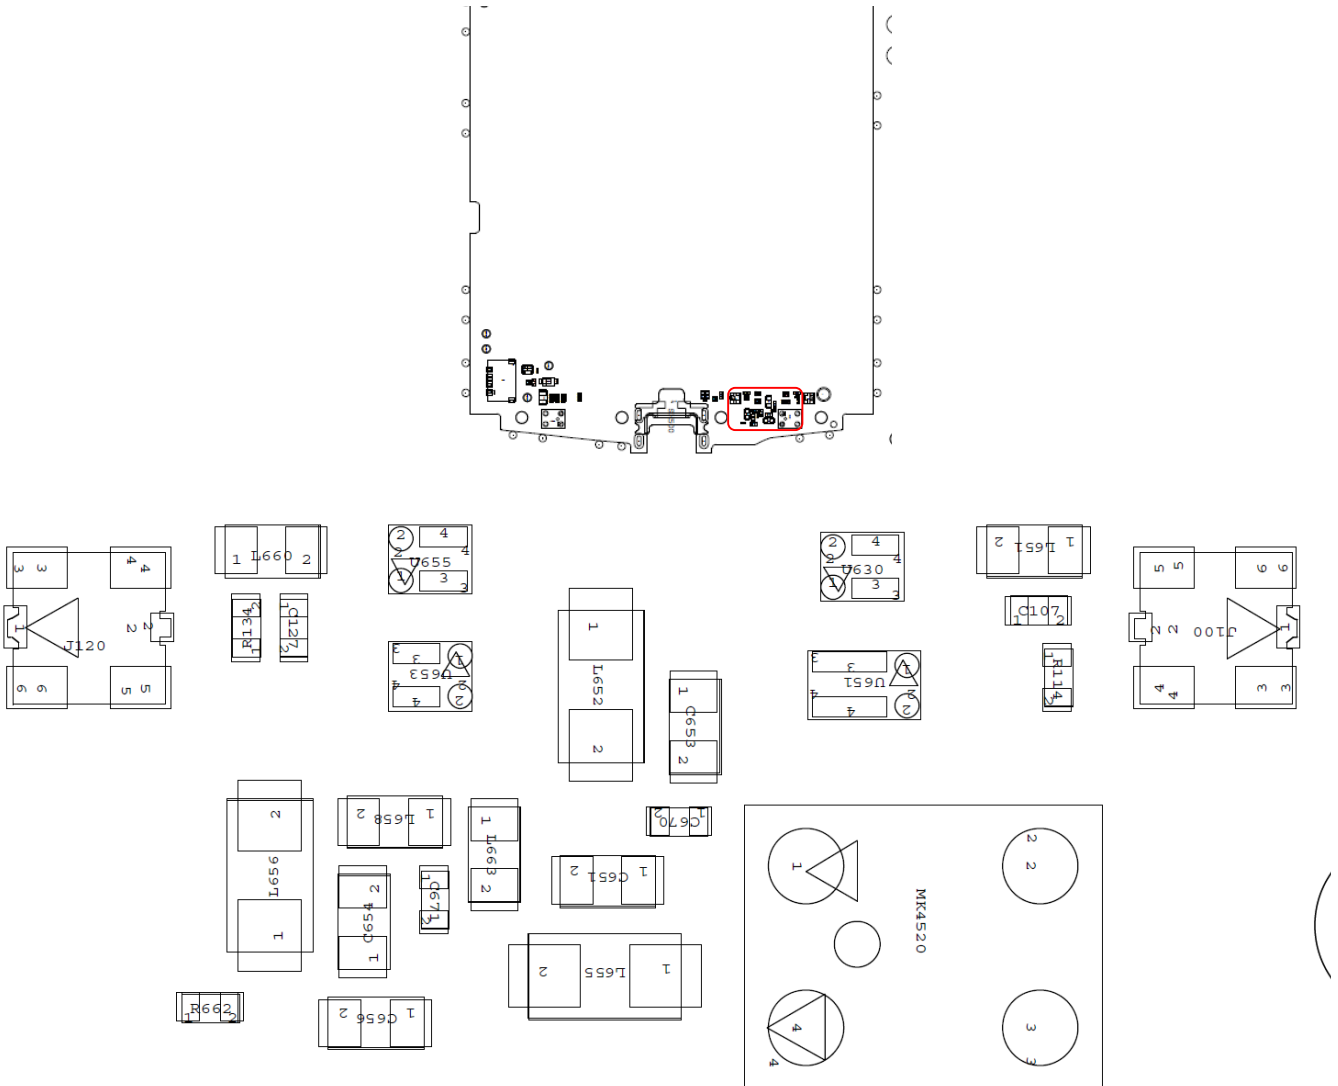

Figure 2: Main Antenna matching components overlay – Rear components
Step 4: If Step 3 does not resolve the problem check the following components for each test failure (component placement shown in figures 2 and 3):